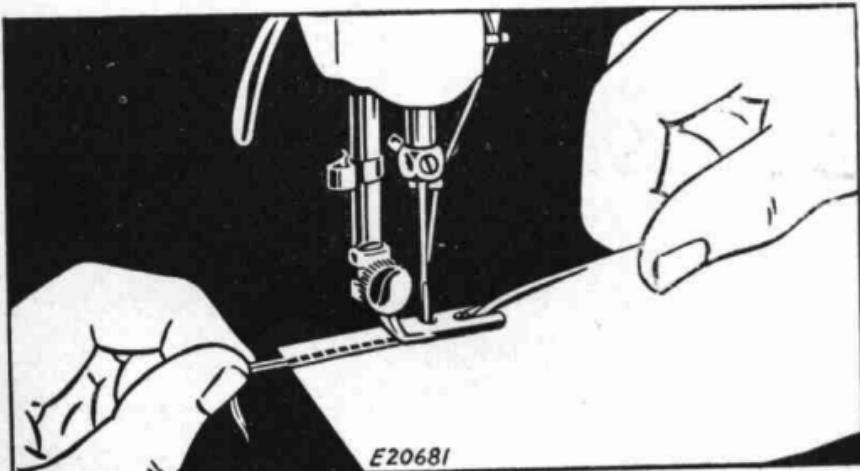

FIG. 36A. HEMMING EDGE OF MATERIAL AND
(4) Lower hemmer and commence to sew, slightly pulling threads back while sewing. **Keep mouth of hemmer full to produce a smooth, even hem, as shown in Fig. 36A.**